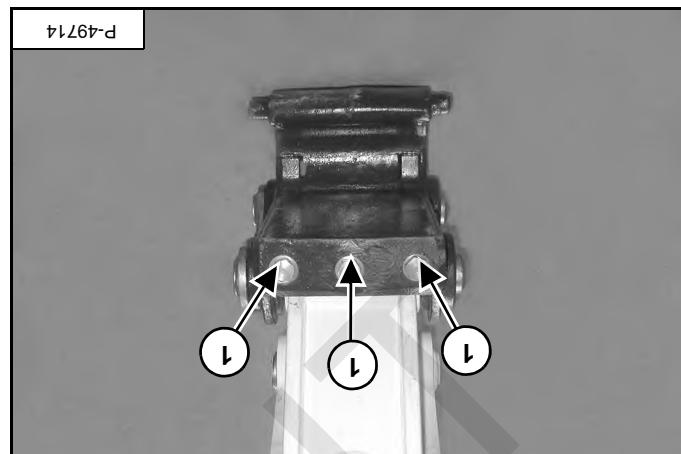

Figure 79
Remove the three plugs (item 1) [Figure 79].